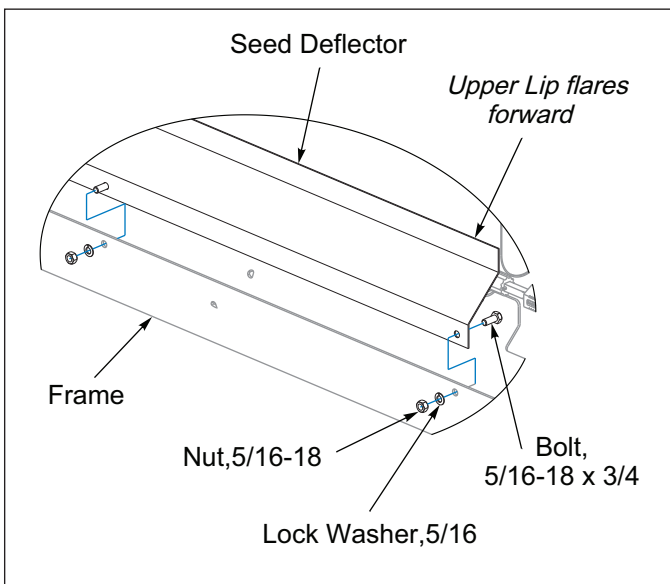
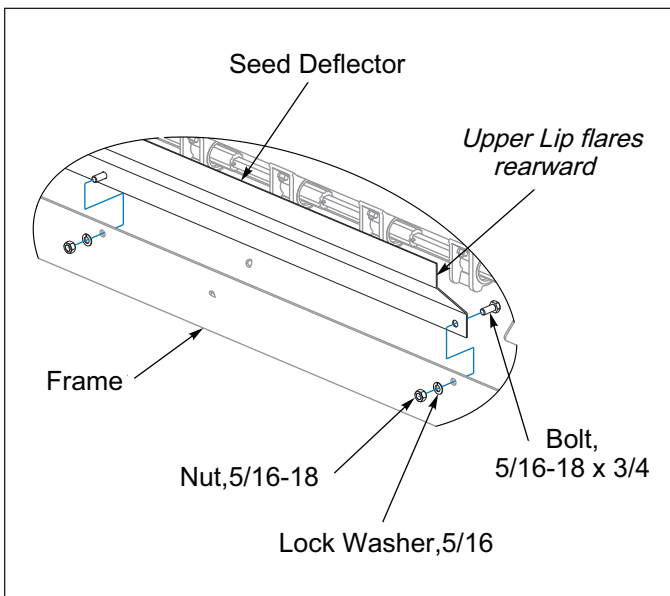

Figure 2-1: Deflector Lip Flares Forward
Figure 2-2: Deflector Lip Flare Rearward
3. Remove the Seed Deflector from the rear of the frame. **See Figure 2-1.** Turn the Seed Deflector around so that the upper lip flares rearward instead of forward. **See Figure 2-2.** Re-install Seed Deflector to the frame.